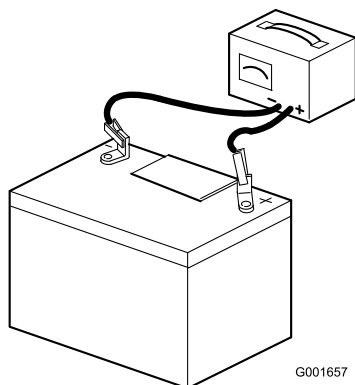

Figure 6
7. Connect a 3 to 4 amp battery charger to the battery posts (Figure 6). Charge the battery at a rate of 3 to 4 amperes for 4 to 8 hours.